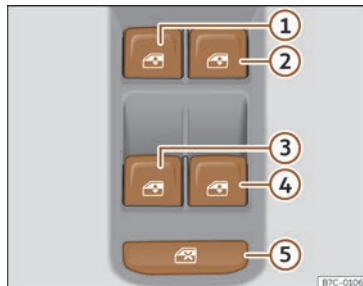

Fig. 86 Detail of the driver's door: window controls.
The safety control >>> **Fig. 86 ⑤** on the driver's door can be used to disable the electric window buttons on the rear doors.